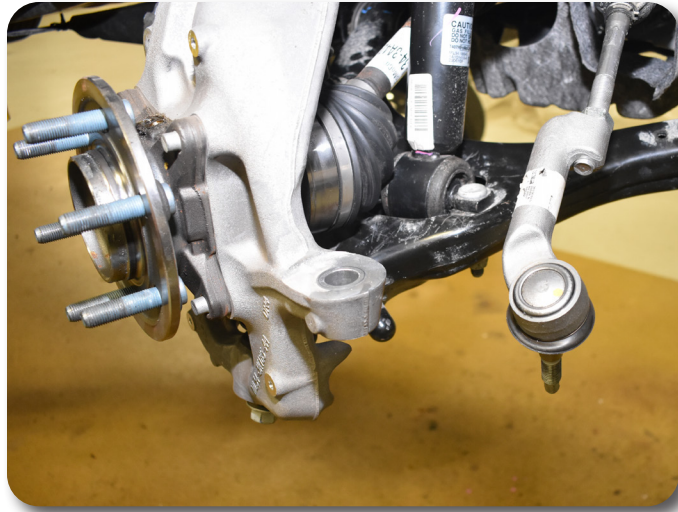

Figure 4
8. Remove the steering tie rod end nut from the tie rod end at the steering knuckle. Avoid hitting the aluminum steering knuckle, use appropriate tool to remove tie rod end from steering knuckle. Take care not to strike the tie rod end, or damage the threads Figure 4